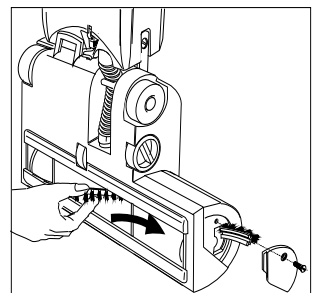

Figure 10
5.4 Exchanging the brush strip <Figure 10>